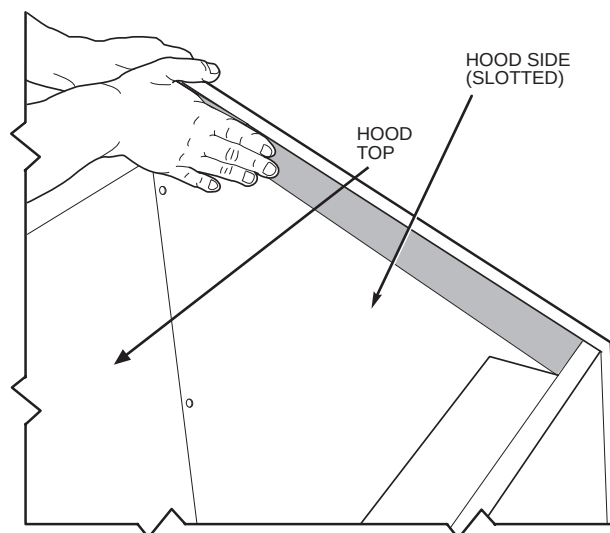

Fig. 21 — Adding Foam Strip to Hood Side
7. Place gray foam strip (provided) on inside of slotted hood side between filter and cross member opposite the mounting end. See Fig. 21.